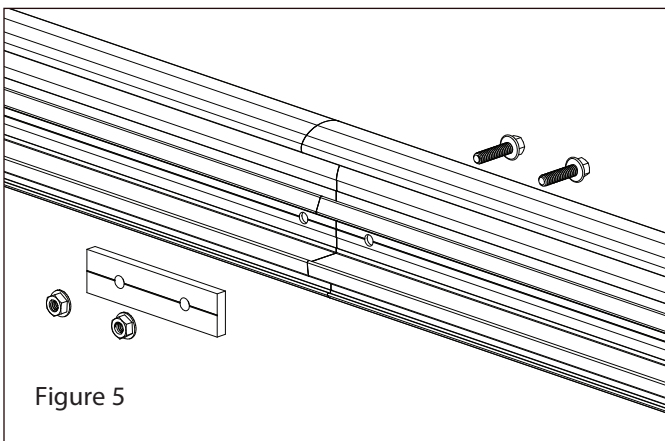

Figure 5
5. When installing lengths greater than 12-feet, use a splice to join sections together. Use the splice as a template to mark hole locations. Bolt sections of aluminum together using the splice and 1/4-20 x 1" serrated hex flange screws and 1/4-20 serrated hex flange nuts. (see figure 5)